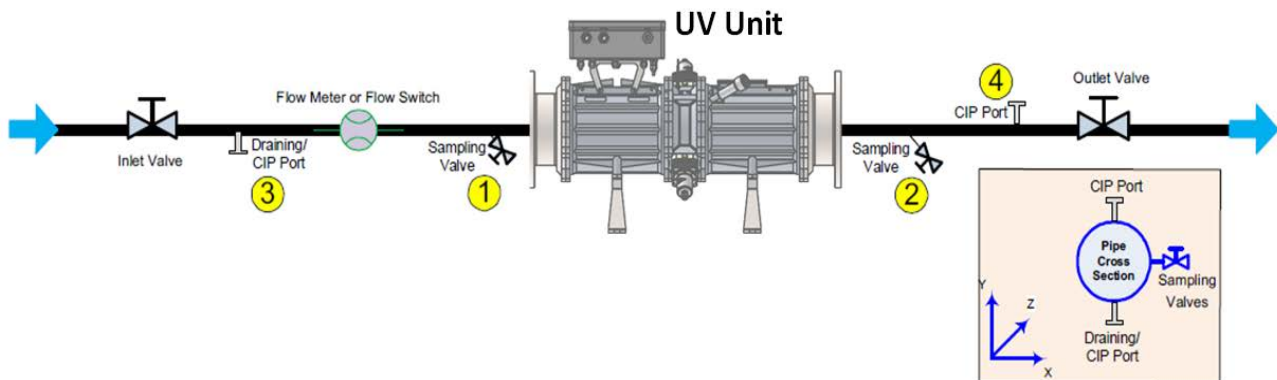

Figure 5-6: CIP Ports and Sampling Valves Orientation
Step 1. On the Inlet side, install the **Long welding ferrule** or **threaded male adapter (1)**.
- Position aseptic sampling valves (1 & 2 in Figure 5-6, on page 44) horizontally (90°) on the pipe center, within 50cm of the Unit.
- Weld the 1 inch **ferrule (1)** clamp fitting at a horizontal orientation (3 or 9 o'clock).